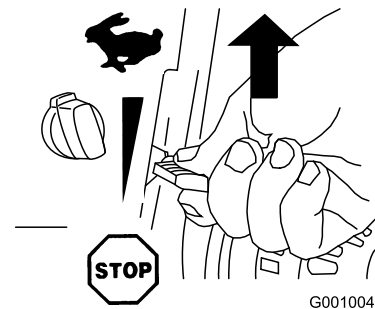

Figure 24
2. Move the throttle to the Fast position (Figure 24).